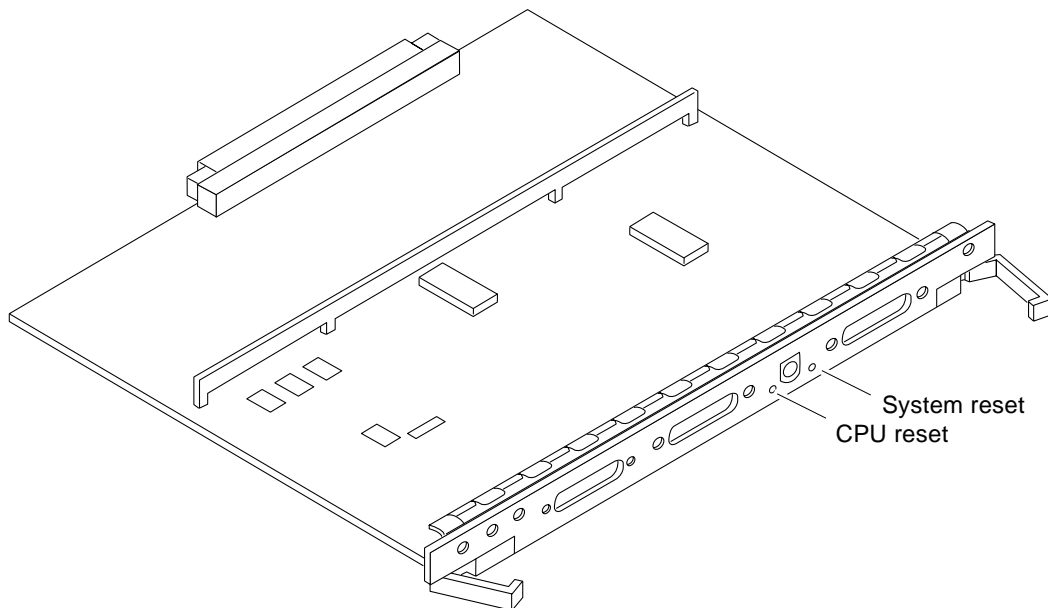

FIGURE 11-6 CPU Reset Switch on Clock+ Board
7. To start POST again, or if the system hangs, press the CPU reset switch on the clock+ board (FIGURE 11-6).